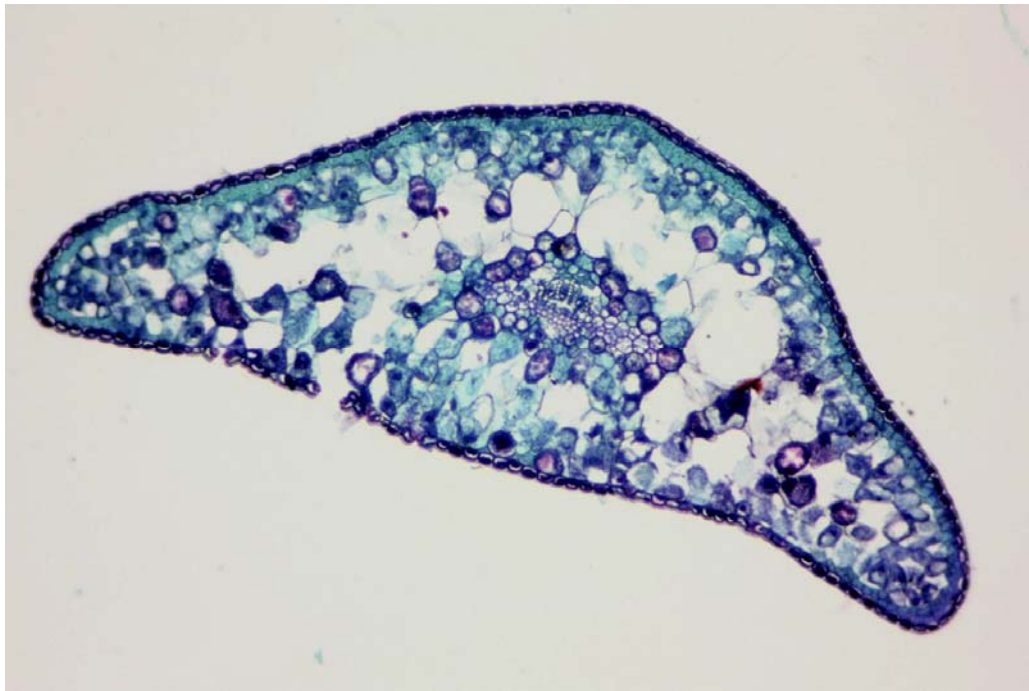

Fig. 2.3
- (b) Fig. 2.3 is a photomicrograph of a stained transverse section through a different type of leaf. You are not expected to be familiar with this specimen.
Prepare the space below so that it is suitable for you to record the observable differences between the leaf sections on **L1** and in Fig. 2.3.
- a) PDO - organises comparison into three columns with one column for features, one column headed **L1** and one column headed **Fig. 2.3**;;